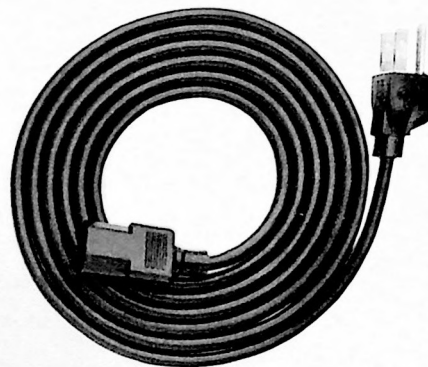

Figure 1. HP Model 11710A Down Converter and Accessories Supplied
2. This Operating and Service Manual contains information required to install, operate, test, adjust, and service the Hewlett-Packard 11710A Down Converter. Figure 1 shows the 11710A and all supplied accessories.